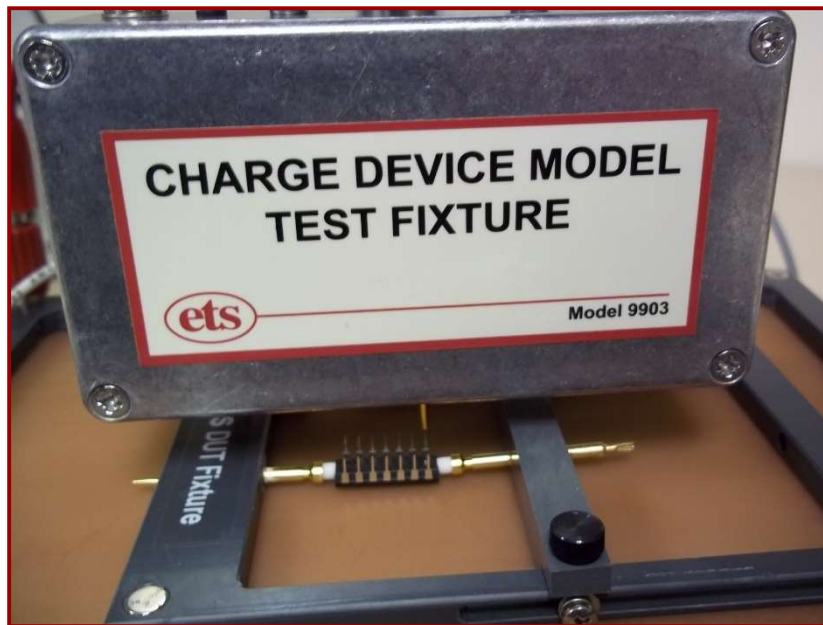

Figure C.4: DUT/Discharge pin alignment
2. Align the spring-loaded pin to the DUT pin to be discharged as shown in Figure C.4.